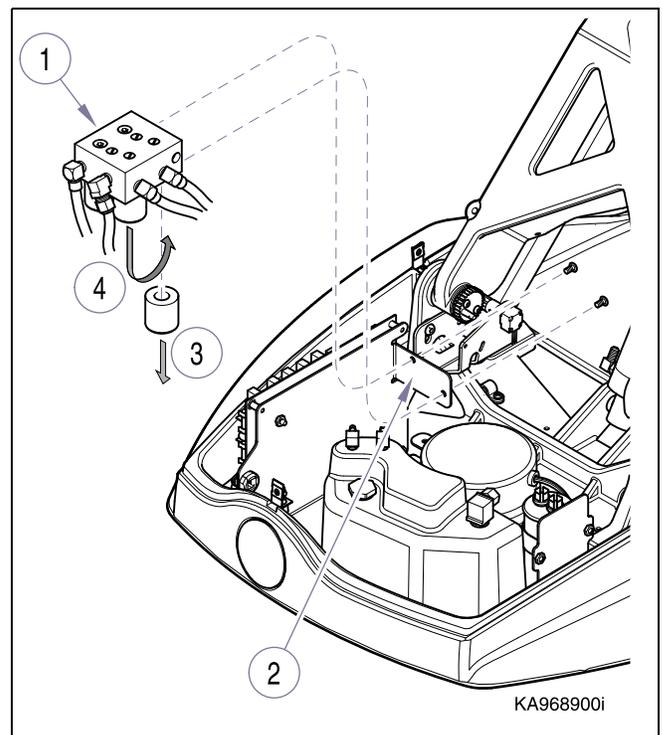

Figure 4-15. Hydraulic Solenoid Valve Assembly.
- a.) Remove solenoid valve assembly (1, Fig.4-15) from mounting bracket (2), two screws.
- b.) Remove malfunctioning solenoid coil (3) and substitute known good coil (4).